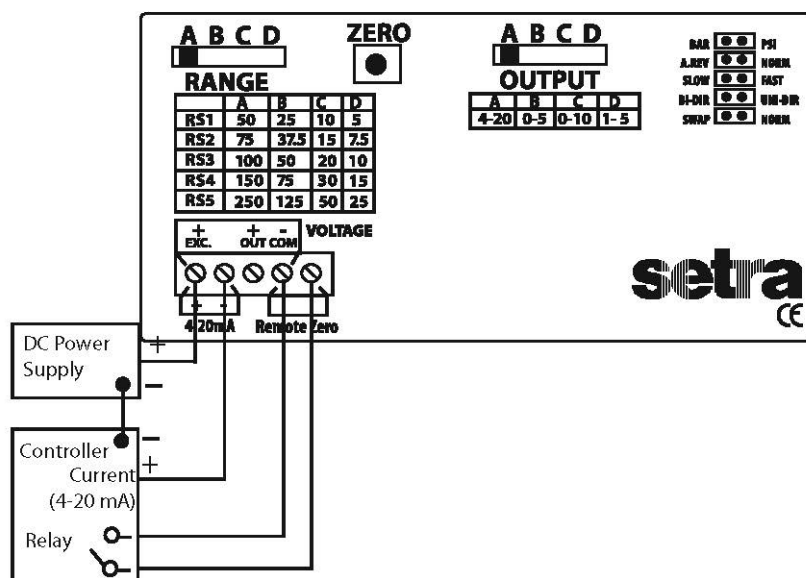

Figure 4
**Auto Zero Button:** Press and hold the “ZERO” push-button for 2 seconds to automatically reset zero or provide contact closure on “Remote Zero, see figure 4 and figure 5. Sensors must be vented to atmosphere.